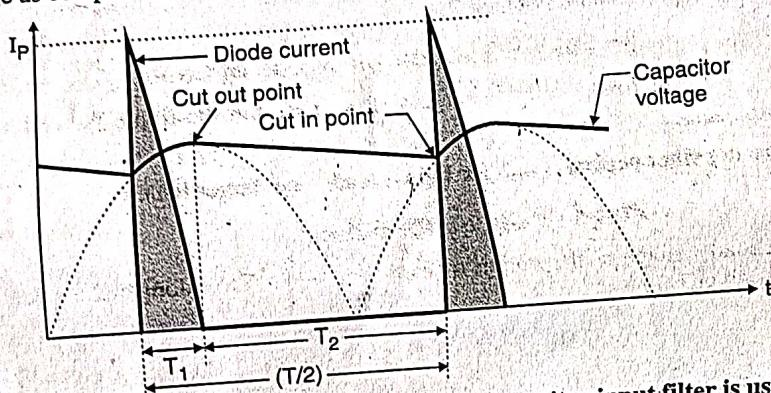

Fig. 11.8.6 : Surge current in diodes when capacitor input filter is used
- Thus the diodes will conduct for a very short time T_1 and discharge for a long time T_2 as shown in Fig. 11.8.6.
- Therefore the diode current flows in the form of pulses of very short duration and large peak values as shown in Fig. 11.8.6.